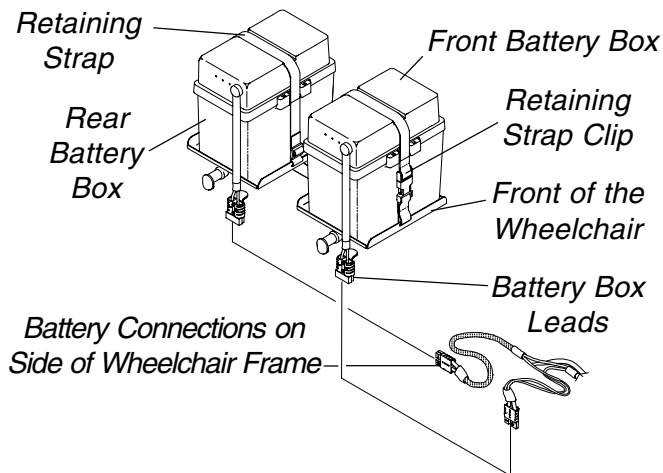

FIGURE 7 - INSTALLING/REMOVING BATTERY BOXES
INSTALLING/REMOVING BATTERY BOXES (FIGURE 7)
4. Position retaining straps around each battery box as shown in DETAIL "A" of FIGURE 7 and clip retaining strap together.